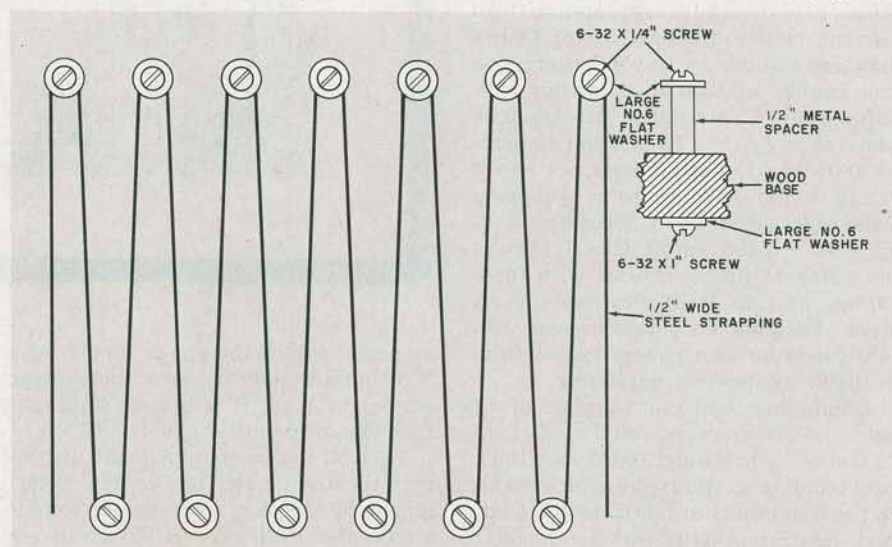

Fig. 2. Using this diagram as a guide and following instructions in the text, you can make up your own load resistor from 1/2-inch steel banding strap.
**Construction Hints.** As shown in Fig. 2, the best way to mount the steel strapping that makes up the load resistor, *R2*, is on a 3/4-inch plywood board, using No. 6 metal—not plastic—spacers and machine hardware. Start by drilling a 1/4-inch hole spaced 1/4-inch in from each end of the strapping.